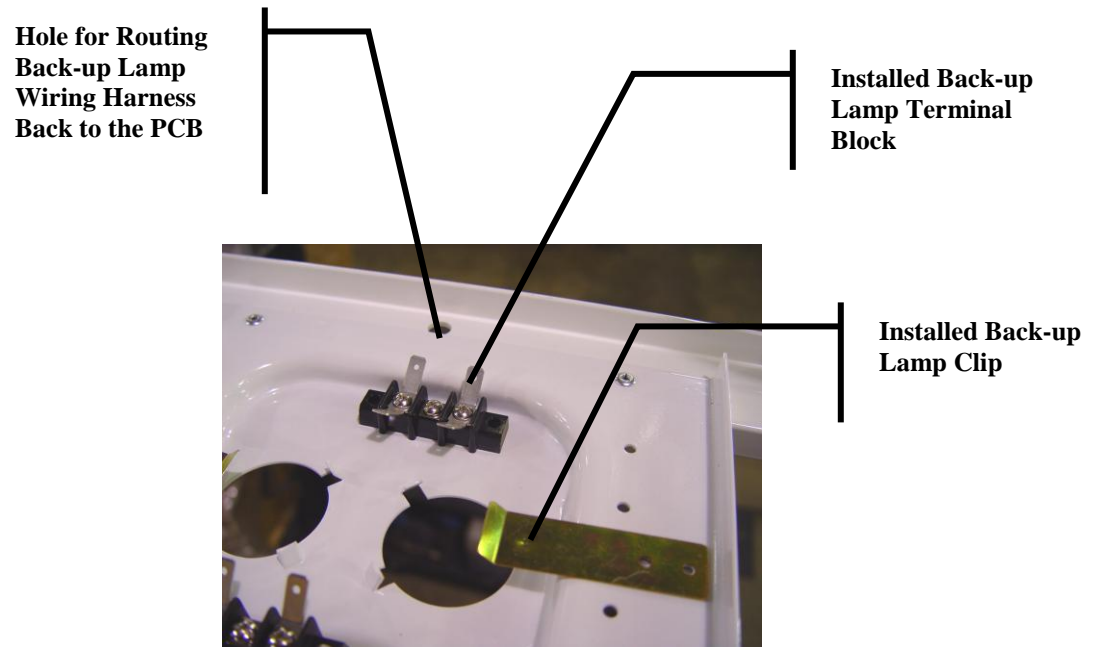
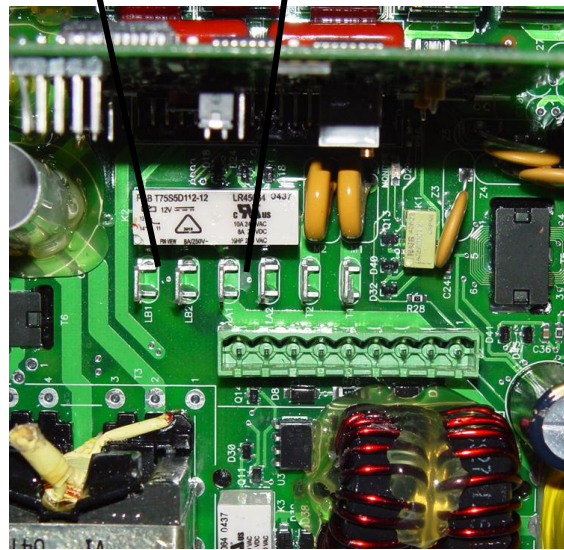

Figure 2
Figure 3
2. Using the two 1/8 dia **short grip** pop-rivets, install the lamp clip. Using the two 1/8 dia **long grip** pop-rivets, install the terminal block. See Figure 2
4. Find the correct length back-up lamp wiring harness and connect one end to the terminal block and then route the wiring harness down through the wire hole, See Figure 2, back to the Active Ballast - Main Board terminals (LA1, LA2 or LB1, LB2). See schematic for wiring harness hook-up to the Active Ballast Board. Also See Figure 3.